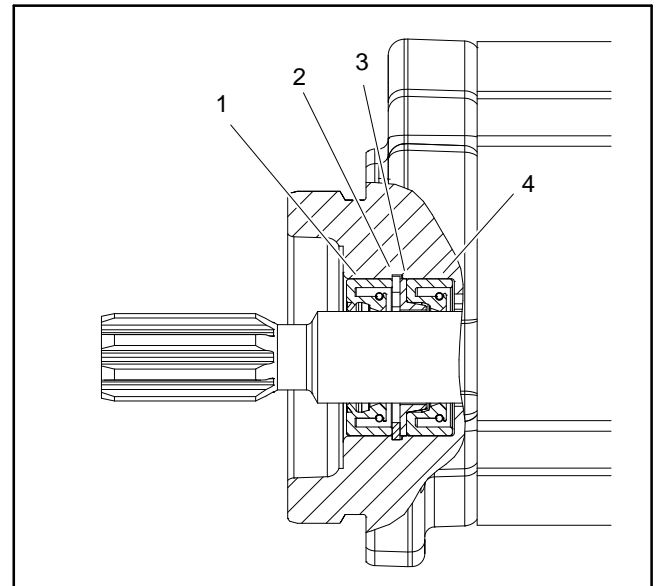

Figure 61
6. Carefully remove body from front cover. Lift body straight up to remove. Make sure the rear thrust plate remains on the drive and idler gear shafts. Remove and discard O-ring from the body. Locate and retrieve dowel pins (item 19).
10. Carefully remove dust seal, retaining ring, back-up washer and shaft seal from the front cover (Fig. 61). Discard removed seals.
2. Install new seals into front cover (Fig. 61):